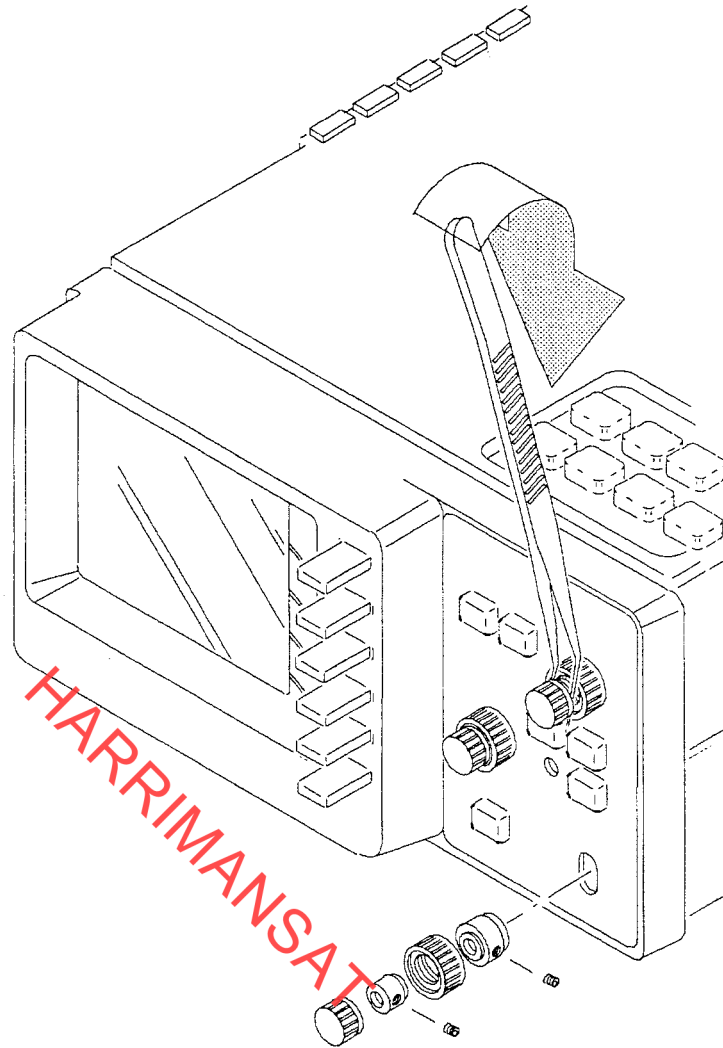

Figure 6-2: Removing Knobs From the Front Panel
The Front and Top Case procedure prepares the oscilloscope for access to internal modules or to internal calibration adjustments. Refer to Figures 6-2 and 6-3 during the following procedure.
- a. Remove the three smaller rubber knob shells labeled **POS** (two shells) and **AUTO LVL:PUSH**. This can easily be done by placing a small angle-tipped object (such as a tweezers) behind the knob shell and gently prying the knob shell off the knob insert. Figure 6-2 shows how to take the knobs off.